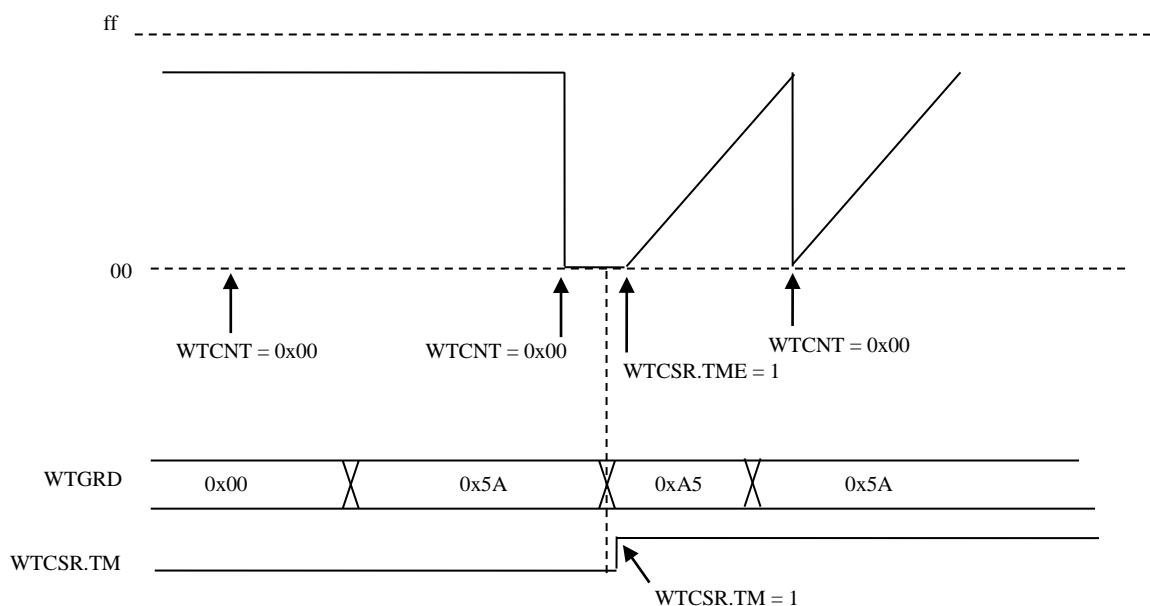

Figure 16-6. Writing to WTCNT and WTCSR Registers
- After 0x5A is written to the WTGRD register, write to the WTCNT register. Figure 16-6 shows the operation that is 0x00 is written to the WTCNT register.
- After 0xA5 is written to the WTGRD register, write to the WTCSR register. Figure 16-6 shows the operation that is 1 is written to the WTCSR.TM and WTCSR.TME bits.